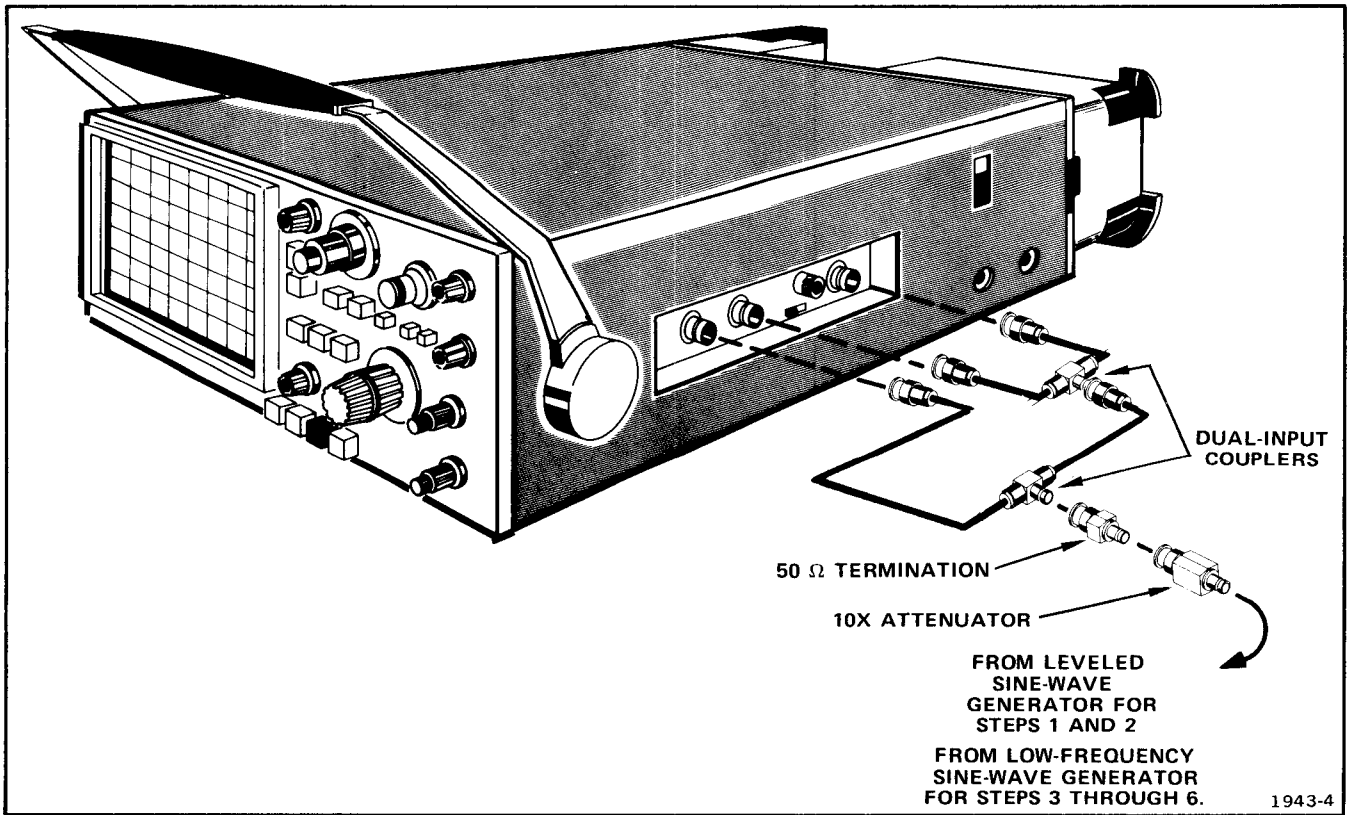

Fig. 5-4. Equipment setup.
a. Connect test equipment to CH 1 VERT INPUT, CH 2 VERT INPUT, and EXT TRIG or HORIZ INPUT as shown in Fig. 5-4.